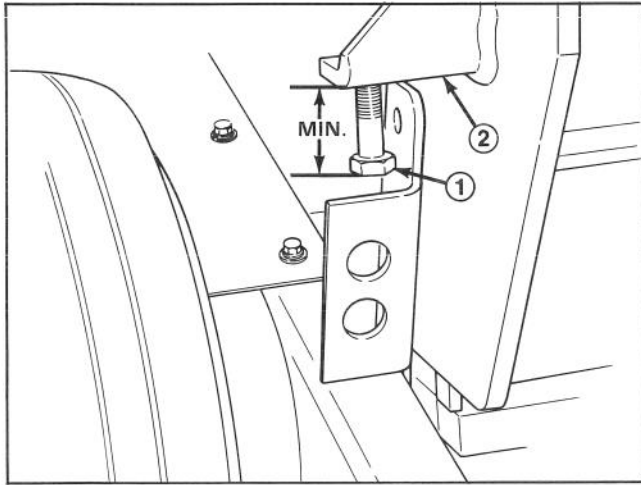

Figure 19
2. Loosen jamnut on top of adjusting bracket (Fig. 19).
3. Thread adjusting screw into bracket to increase coring depth and out to decrease depth (Fig. 19).
4. Maximum recommended coring depth is achieved when distance from end of screw head to bracket is $11/16"$ (.69) (Fig. 19).